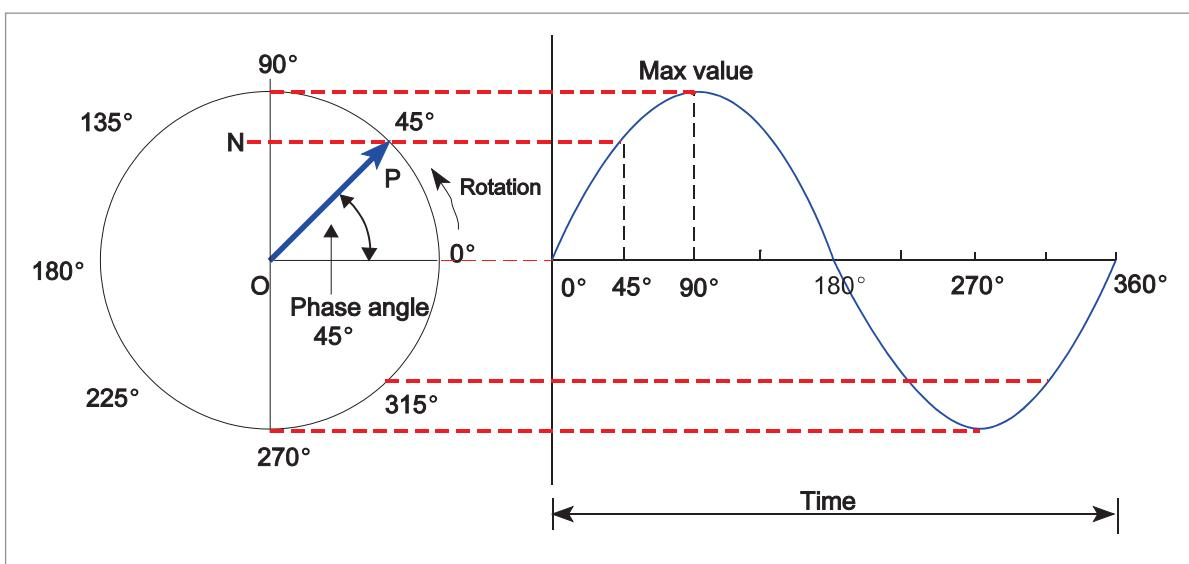

Figure 11.3 Production of a sine wave
*Figure 11.3* illustrates the production of AC. The blue vector arrow OP represents one half of the coil of the generator, pivoted at O and rotating in an anti-clockwise direction. The EMF induced in the coil is proportional to the ordinate ON, or can be calculated by multiplying the max value by the sine of the Phase Angle at that point.
Several terms are used to describe alternating current, illustrated in Figure 11.3 and some of these terms are explained below:
- **Cycle.** A cycle is one complete series of values, e.g. the graph of Figure 11.3